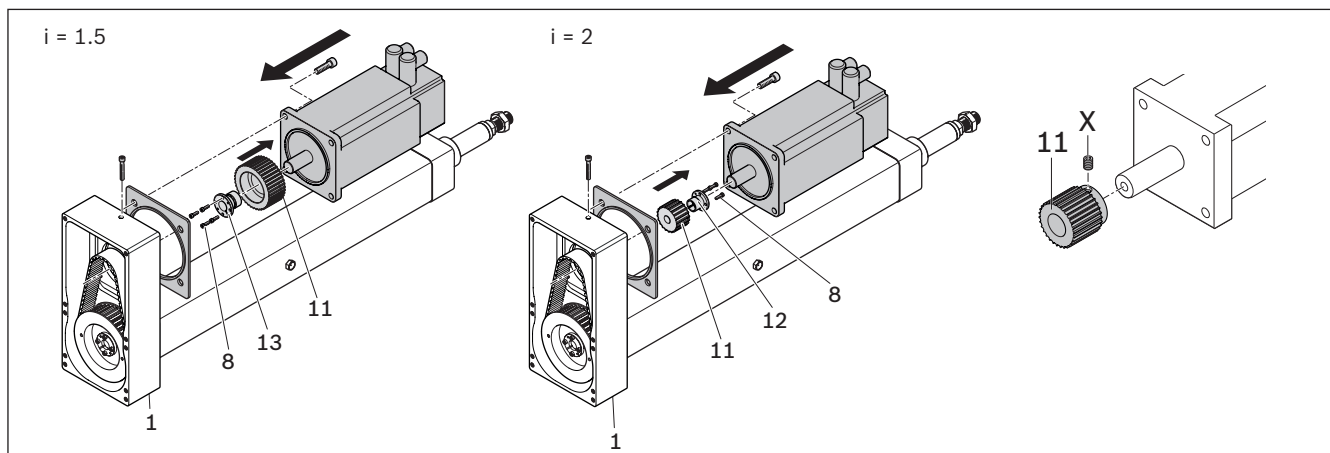

Fig. 23: Mounting the motor and motor-side belt pulley, $i = 1.5$ and $i = 2$
6. Set the distance **A** to the base plate **(1)** ➔ Fig. 23, table 15
2. Set distance **C** ➔ Fig. 23, table 15